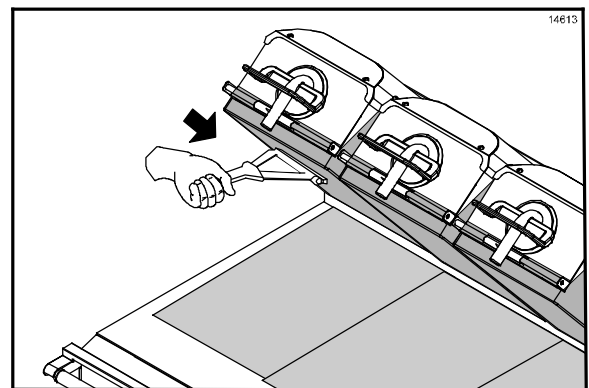

Figure 28
2. Squeegee the upper release sheet from top to bottom. (See Figure 28.)